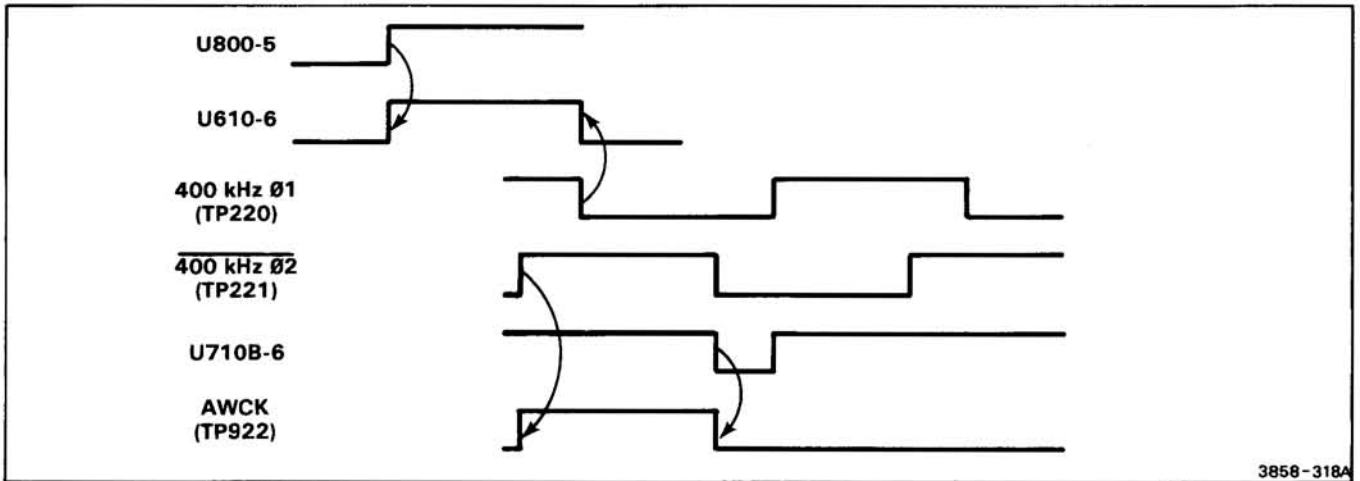

Figure 2-30. Acquire Waveform Clock (AWCK) generator.
Gates U710A and U710B, and flip-flops U610A and U610B generate the acquire waveform clock (AWCK). When the acquire waveform clock enable ($\overline{\text{AWCKE}}$) line is high, the pin 6 output of U610A is held low, which in turn holds the pin 9 output of U610B low. The circuit is thus disabled. When the $\overline{\text{AWCKE}}$ line is pulled low (see Fig. 2-30), the pin 6 output of U610A is raised on the next sample clock edge from U800. On the next rising edge of the 400kHz(2) clock, AWCK is pulled high. AWCK remains high until both the 400kHz(2) and 400kHz(1) signals go high and reset the U610B output low. When AWCK and 400kHz(1) go high, U710A resets pin 6 of U610A low. U610A is then ready for the next sample clock from U800.